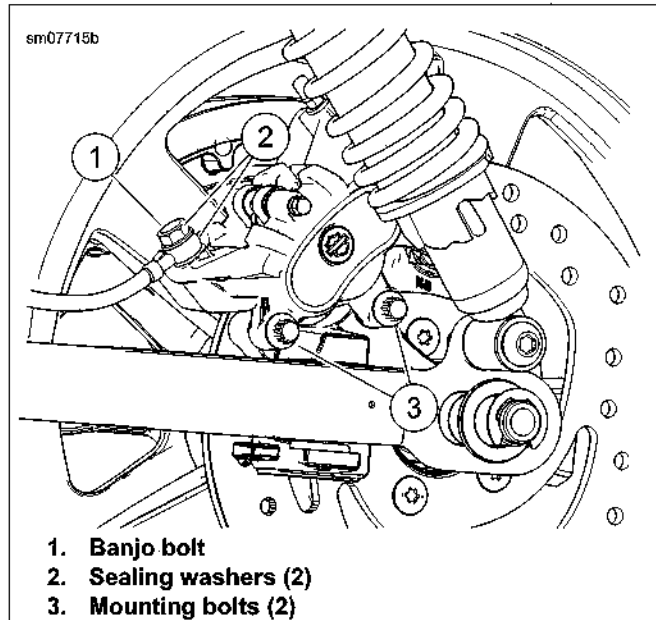

Figure 2-74. Rear Brake Caliper
1. See Figure 2-74. Install rear caliper over brake disc onto mounting bracket.
2. Install mounting bolts (3). Tighten to 28-38 ft-lbs (38.0-51.5 Nm).